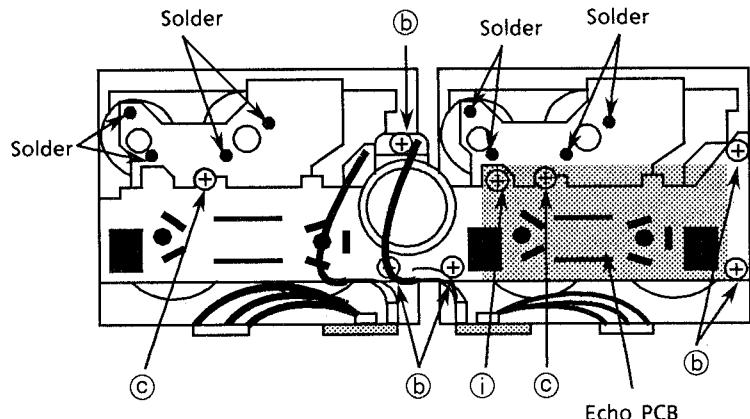

Fig 18
3. Remove the screw ① to remove the echo PCB (Fig 18).
4. Remove the 7 screws ④,⑤ fixing the bracket (Fig 18).
3. Remove the 7 screws ④,⑤ fixing the bracket (Fig 18).
5. Remove the 4 screws ⑥ fixing the reel and cam motor.
3. Remove the 7 screws ⑤,⑥ and the bracket (Fig 18).